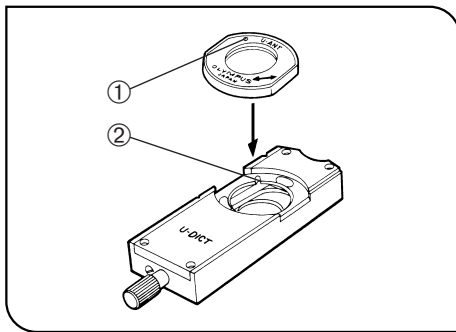

Fig. 60
3 Attaching the Analyzer and DIC Slider (Figs. 60 to 62)
2. Align the index ① of the U-ANT analyzer and the positioning groove ② of the U-DICT DIC slider and drop the analyzer into the analyzer mount of the DIC slider. (Fig. 60)
3. Hold the U-DICT ③ so that the side with indication faces down, insert it into the revolving nosepiece, and tighten the clamping knob ④.